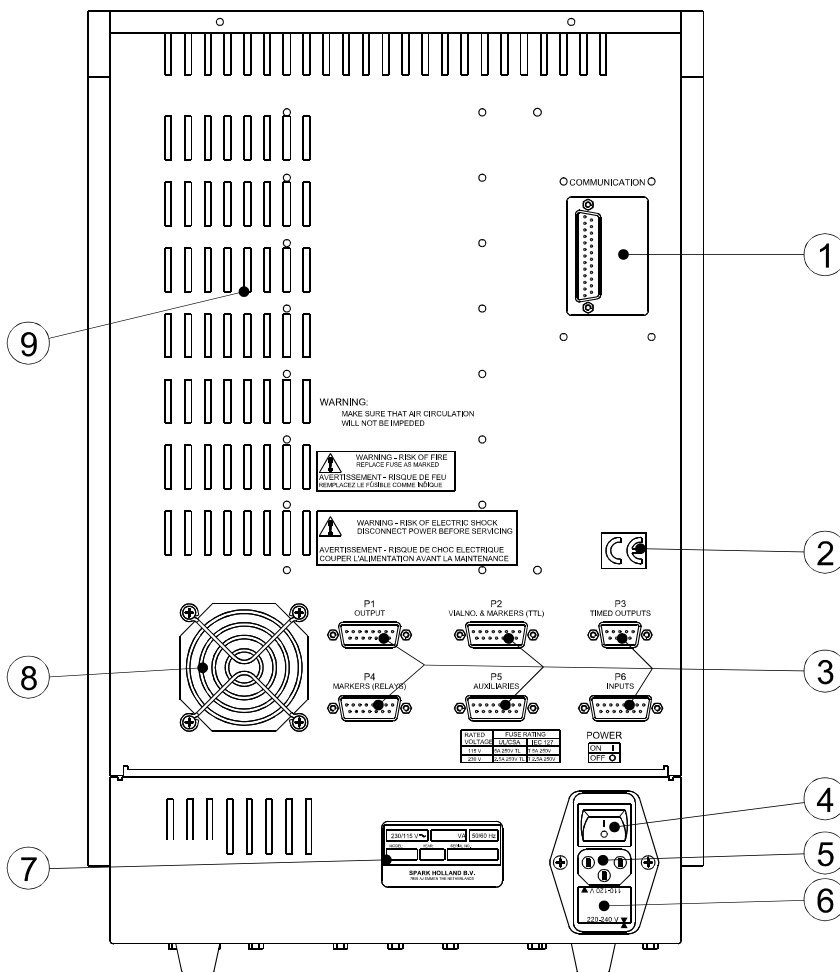

Figure 2 Back of the ProStar 430
5. Connect the power cord to the ProStar 430, Figure 2,(5).
6. Switch the ProStar 430 on by using the switch at the back of the apparatus, Figure 2 (4).